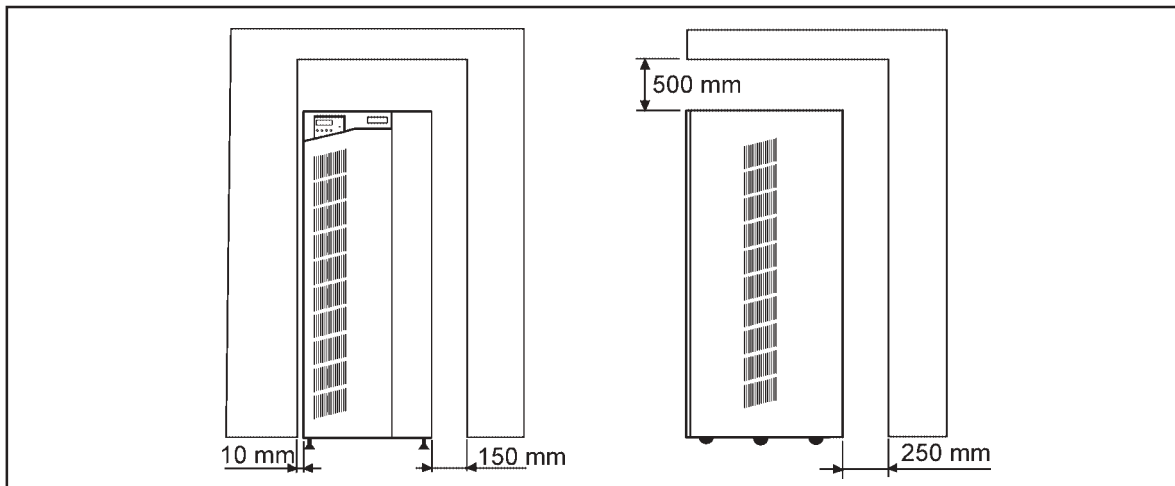

Figure 4a. Ventilation and space requirements for 20 - 30 kVA UPS.
- Make sure that ventilation and space requirements are met. When the UPS is in use, there should be 10 mm clearance on the left side and 150 mm on the right side of 20-30 kVA UPS and 10 mm on the right side of 40-80 kVA UPS. 250 mm clearance is needed at the rear of the UPS and 500 mm on top of the UPS for ventilation, see figures 4a and 4b. 1000 mm clearance is needed in the front of the UPS for servicing.